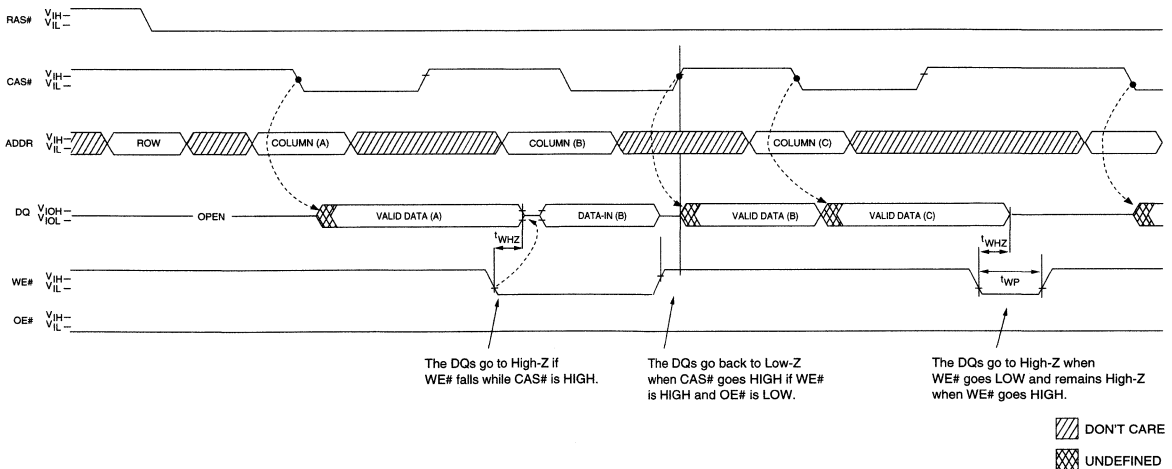

Figure 3
2. WE# pulsing LOW while CAS# is HIGH (see Figure 3).
The SPD can be incorporated into a system design several ways. The first configuration is referred to as Common Clock/Common Data (Figure 3). In this configuration, SA0-SA2 are wired at each DIMM socket in a binary sequence for a maximum of eight modules. All eight modules share a common clock and common data line. Pull-up resistors (4.7K typical) are required on all SCL and SDA signals due to their open drain interface. The second configuration is Common Clock/Separate Data (Figure 4). In this configuration, SA0-SA2 are wired at each DIMM socket to the same address (typically all to Vss). The SCL is wired to all positions. The SDA is unique for each position, allowing for greater than eight positions, but not permitting C_{MAX} to exceed 400pf. Since the data pins are separate, eight positions could provide parallel data paths of one byte (8x speed improvement). The third configuration is the Common Data/Separate Clock (Figure 5). SA0-SA2 are wired at each DIMM to the same address. The SDA is wired to all positions. The SCL is unique for each position, allowing for greater than eight positions, but not permitting C_{MAX} to exceed 400pF.